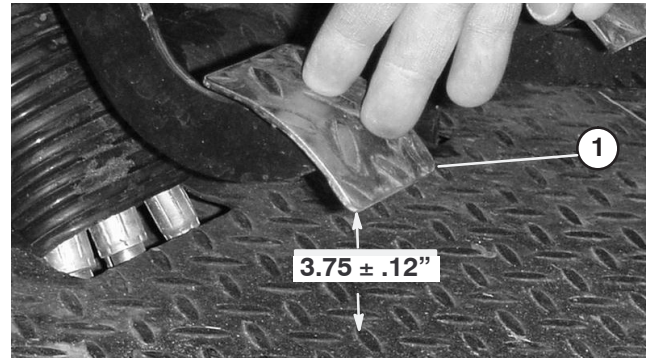

Figure 63
- Adjust the jam nuts/or ball joint until the back rear edge of the clutch pedal is $3.75'' \pm .12''$ from the top of the floor plate diamond pattern, when a 4 lb. force is applied to the pedal (Fig. 63).